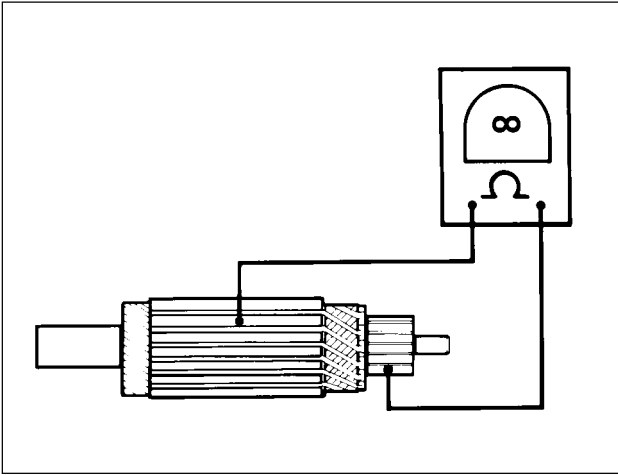

Figure 5-12. Grounded Armature Test
11. See **Figure 5-12**. Check for a GROUNDED ARMATURE with an ohmmeter or continuity tester. Touch one probe to any commutator segment, and the other probe to the armature core. There should be no continuity (infinite ohms). If there is any continuity the armature is grounded and should be replaced.